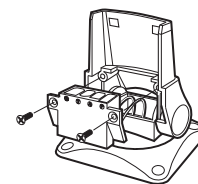

Figure 12
4. Insert the connector holder into place and fasten it to the mounting bracket using the two #6-32 x $\frac{3}{4}$ " (19 mm) screws (Figure 12). **Hand-tighten only.**